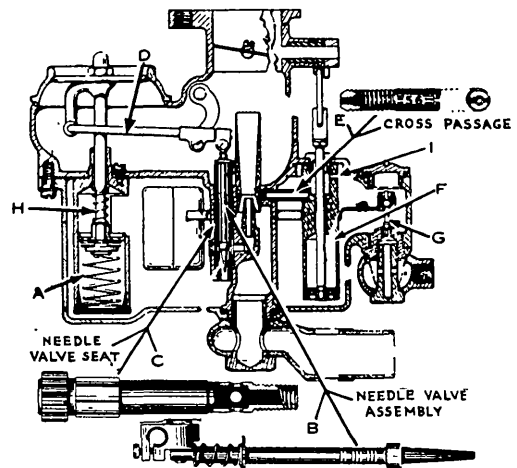

Fig. 6A
**Schebler Model S.**—There are three points to be considered in the specification information for Schebler Model S carburetors; namely, needle valve assembly (B) Fig. 6A, air valve spring (A) and cross passage (E).
per of the needle is graduated in degrees and each needle valve is numbered by rings on the body of the needle as shown in Fig. 6A. A greater taper of the needle valve would mean a richer mixture and a straighter taper would mean a leaner mixture. It should be borne in mind, however, that while the needle taper is graduated in degrees, the rings on the body of the valve do not indicate the number of degrees of taper. The following table contains the needle valve number, part number, taper angle and number of rings found on the body of the valve.
If trouble is experienced with a Schebler Model S carburetor and the symptoms indicate a defective needle valve action, check to see that the fulcrum arm (D) Fig. 6A is not worn causing the needle valve fulcrum lever to stick. This condition generally causes a too rich mixture.
**Air Valve Spring.**—The air valve spring is located in the dash pot as shown at (A) Fig. 6A and is for the purpose of controlling the action of the air valve.
**Cross Passage.**—The cross passage connecting the accelerating pump chamber with the venturi as shown at (E) Fig. 6A and control the amount of gasoline admitted to the venturi during acceleration. Pump cross passages are made in drill sizes and the number of the passage is stamped on the side of the cross passage body. In the table below, the length of the cross passage, size number and drill size in thousandths of an inch is given.
**Diagnosis, Accelerating Pump Cross Passage too Small.**—If the accelerating pump cross passage (E) Fig. 6A is too small, the car may have a flat spot on acceleration. This condition will generally be indicated by a popping back through the carburetor due to a lean mixture.
**Needle Valve Seat.**—When installing a new needle valve seat (C) Fig. 6A, screw the seat in until the gears stand at approximately the center of the pinion.